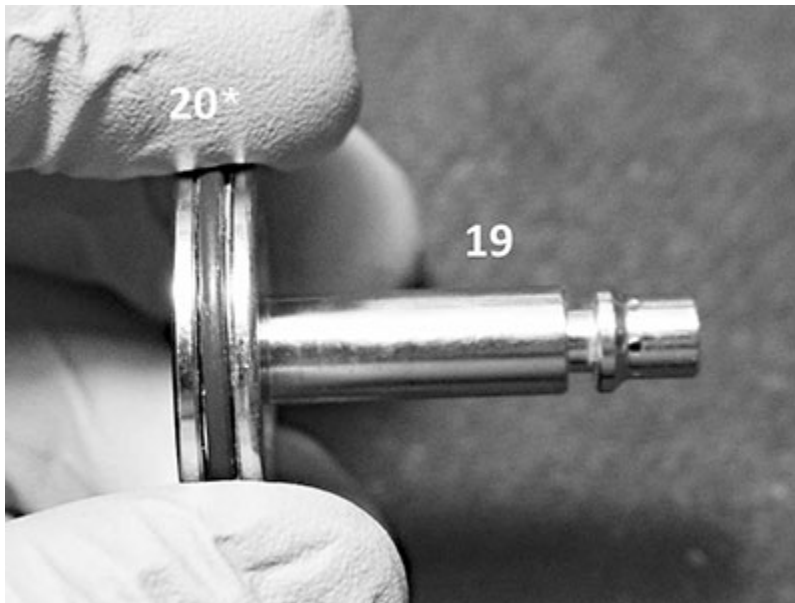

Fig. 20
1. The first step in the assembly of the now cleaned first stage is to lubricate and install the O-ring (20\*) on the Piston (19) - Fig. 20.